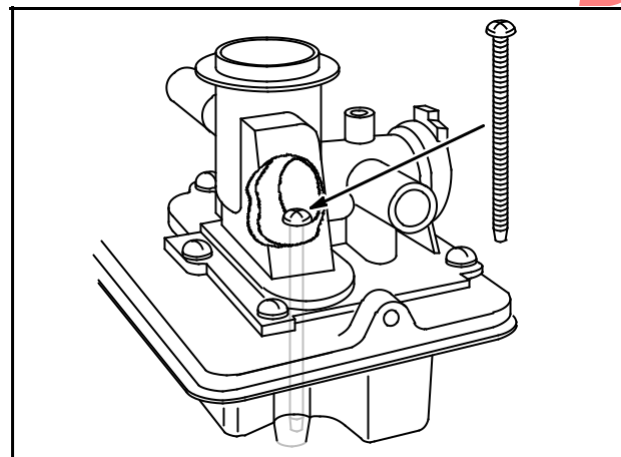

Fig. 224 - SCREW UNDER CHOKE PLATE
**NOTE:** On Model Series 110900, 111900, 113900, and 114900 a mounting screw may be located under choke plate. To gain access to screw, open choke plate completely. Use a #2 Phillips head screwdriver to remove screw, Fig. 224.